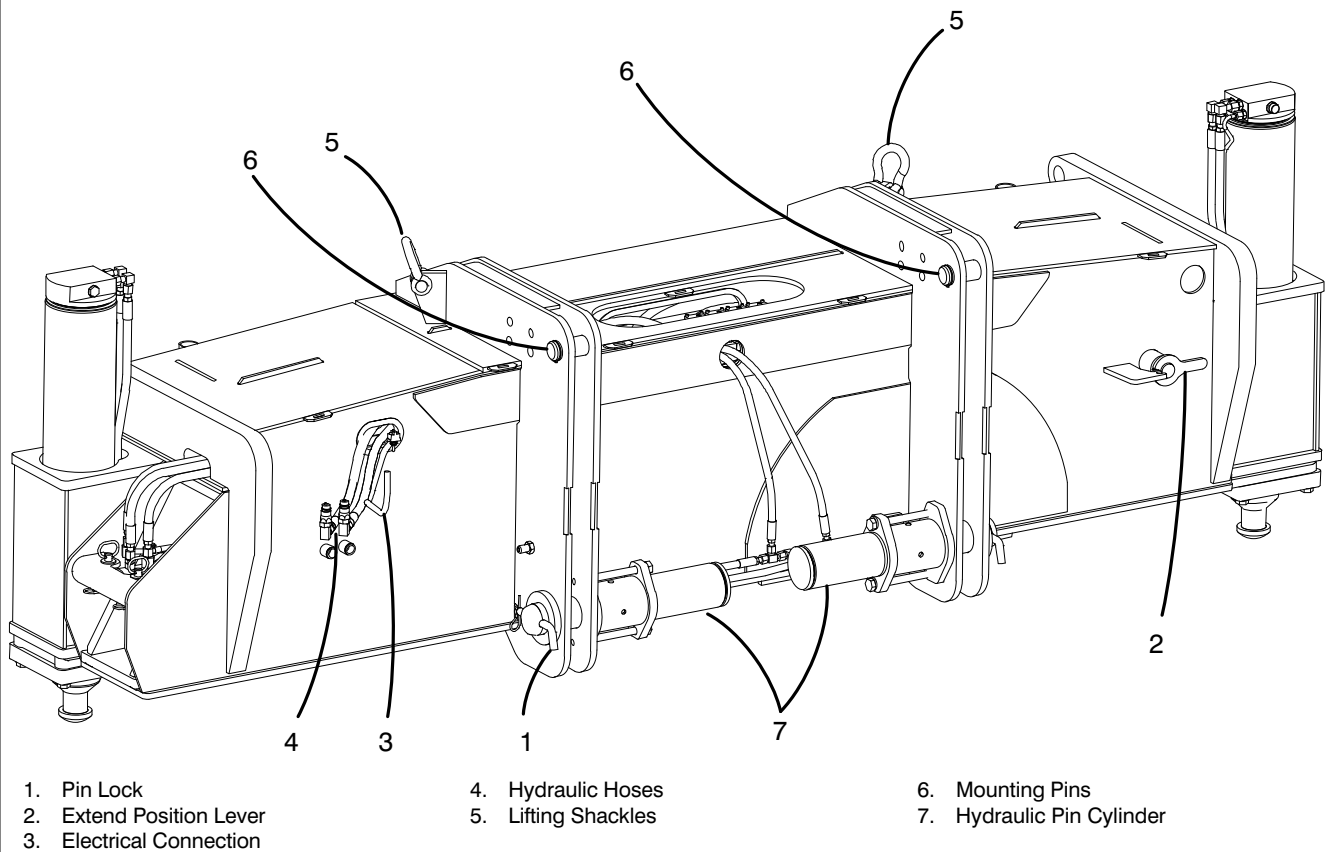

Figure 1–68
2. Rig a sling to the lifting shackles on the top of the outrigger box. Refer to Figure 1–68.